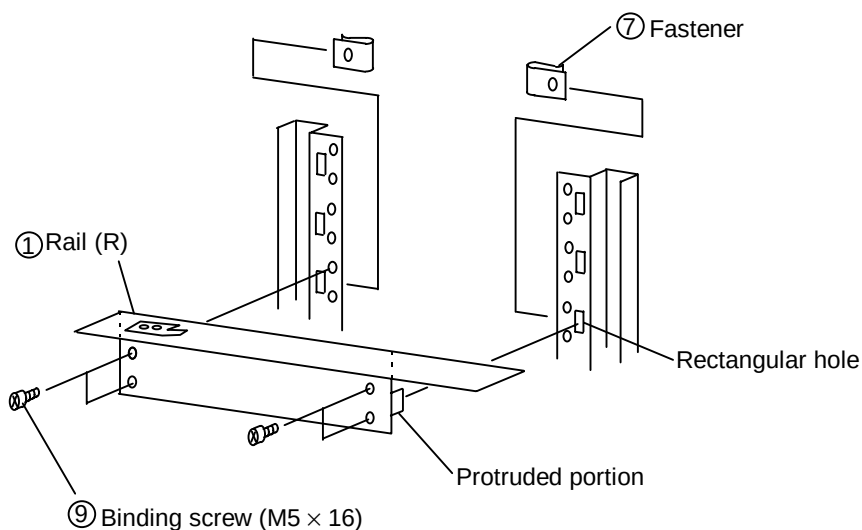

Figure 1.4.4 Securing the Rail to the Rack Frame
- (2) Insert the protruded portions of the ① Rail (R) into the rectangular holes on both the front and rear sides of the rack frame at right hand side of the desired installing position. (See Figure 1.4.4.)
- (3) Install the fasteners aligning their holes with the holes of the rail and the rack frame (at two places each on the front and rear sides). (See Figure 1.4.4.)
- (4) Secure the ① Rail (R) using the ⑨ Binding screws (M5 × 16) (at two places each on the front and rear sides).
- (5) Temporarily attach the ④ Stopper (L) to the ② Rail (L), and secure the ② Rail (L) to the rack frame in the same way.